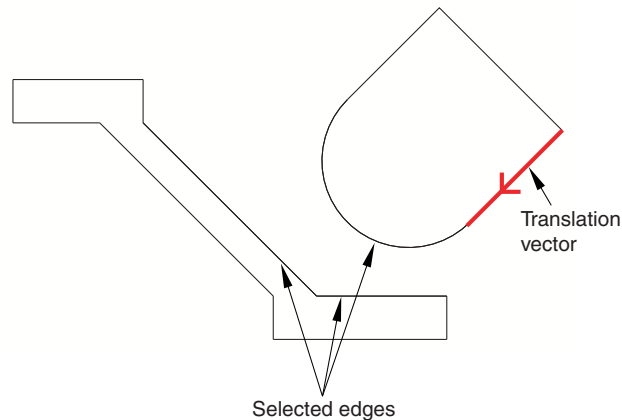

Figure 13–14 Select the edges to contact, and define the translation vector.
- Prescribe the motion of the movable part instance by defining a translation vector. Figure 13–14 illustrates the selected edges and translation vector.
- Define the desired clearance between the selected faces or edges. Figure 13–15 shows the effect of the contact constraint after specifying a clearance value of zero and a clearance value of d . To measure the clearance d , Abaqus/CAE first moves the part instance along the translation vector until any pair of selected faces or edges come into contact. Abaqus/CAE then moves the part instance along the translation vector a distance specified by the clearance value. The clearance can be zero or